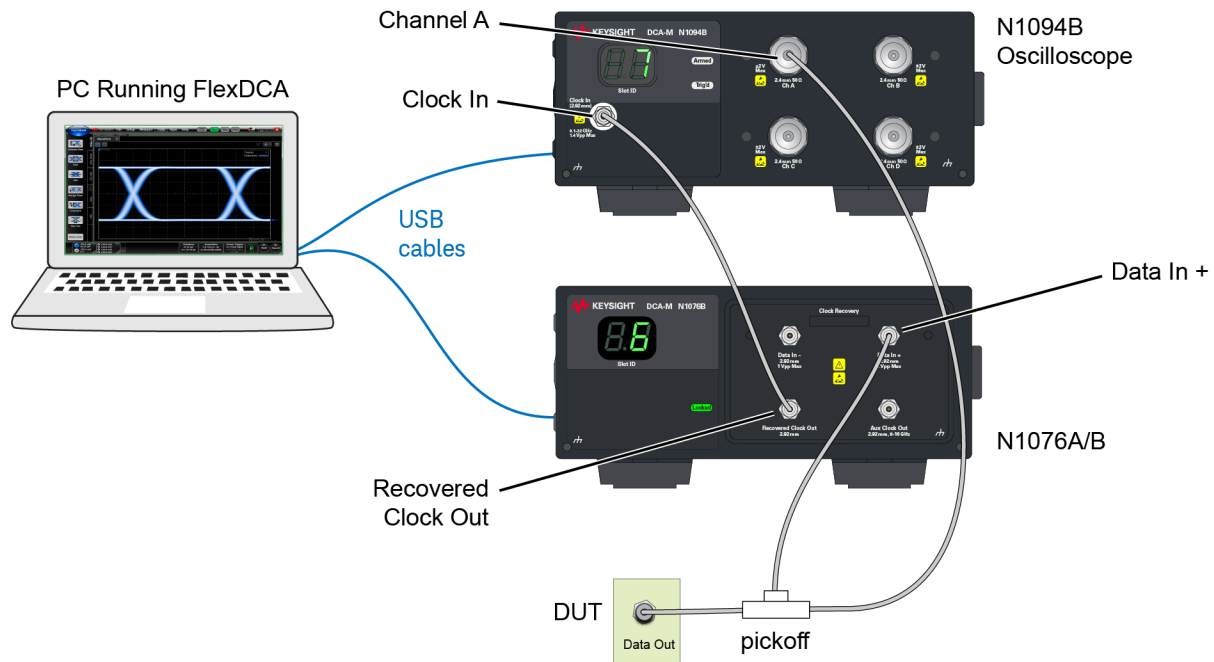

Figure 24. Typical Connection Setup
3. Connect the N1076B as shown in Figure 24 on page 63. If connecting to an N1000A (or 86100D) instead of a PC, be sure to connect the USB cable to the N1000A's rear-panel USB port.